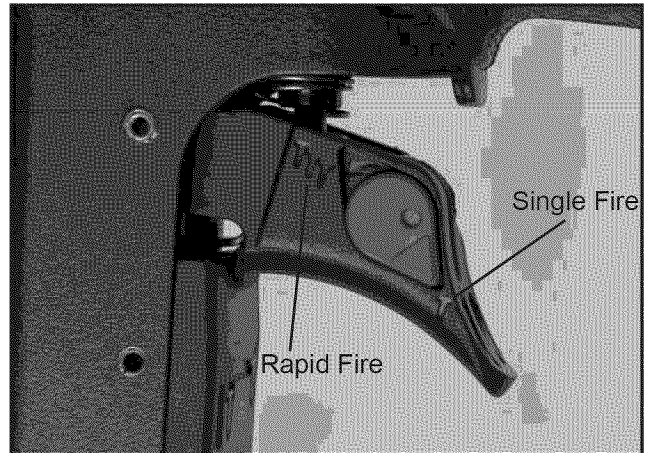

Figure 8—Push and Rotate Switch (pushing from the backside) to Select Operation Mode
- The tool is equipped with a rotating switch that can be set to rapid-fire or single-fire mode (See Figure 8). When the switch is set to single-fire mode, the tool will not drive a second fastener until the trigger is fully released and pulled again.